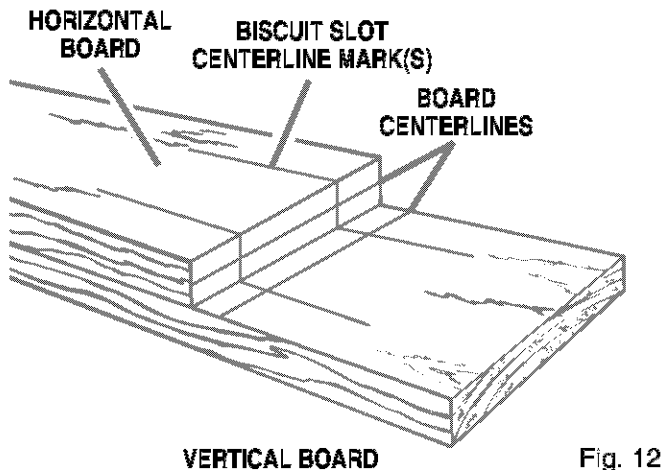

Fig. 12
- Place the two pieces of wood to be joined on a level workbench as shown in Figure 12. The inside face of the vertical board should be facing up.